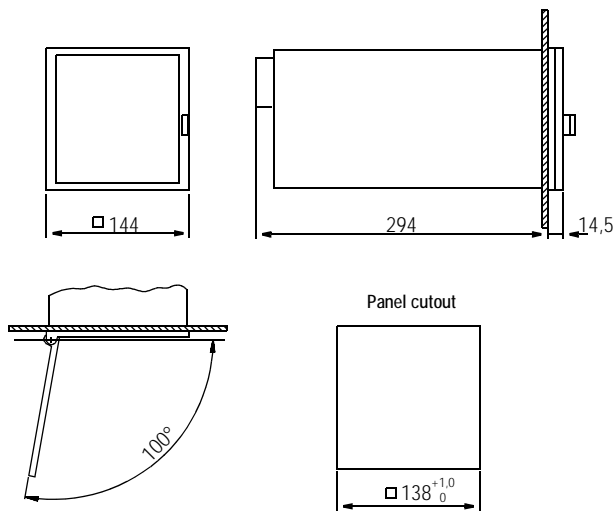
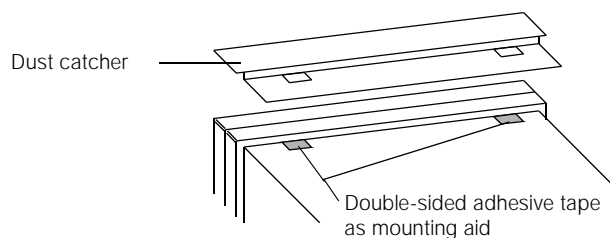

Figure 2 Dimensional drawing LINAX 4000H (dimensions in mm)
Figure 3 Mounting the dust catcher
(see Figure 2 and Figure 3)
1. Stick the double-sided adhesive tape onto the top of the case (see Figure 3).